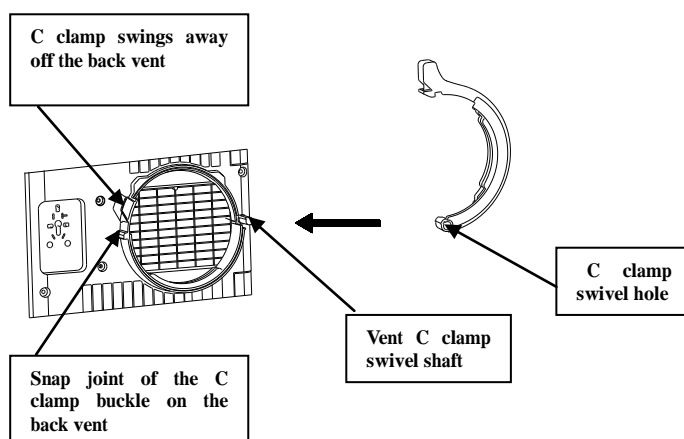

Figure 1
- 2). Point the swivel hole at the end of the C clamp, towards the swivel shaft at the back of the vent. Set it onto the swivel shaft on the back exhaust vent as shown in Figure 1.